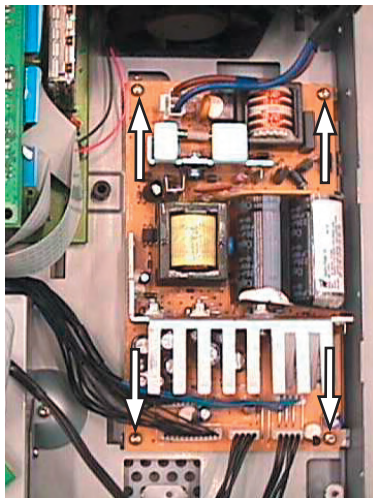

Figure 4-7
- 3) Remove 4 screws to loosen the PSU Board 1007 as shown in Figure 4-7.